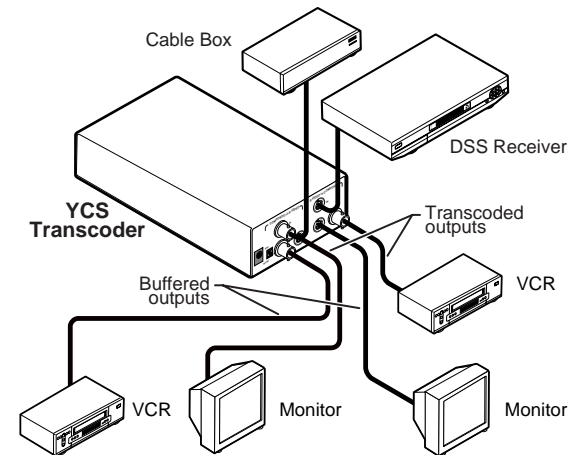

Figure 2 — Typical transcoder application
1. Connect the input and output devices to the YCS Transcoder using the typical transcoder application diagram (figure 2) as a guide.